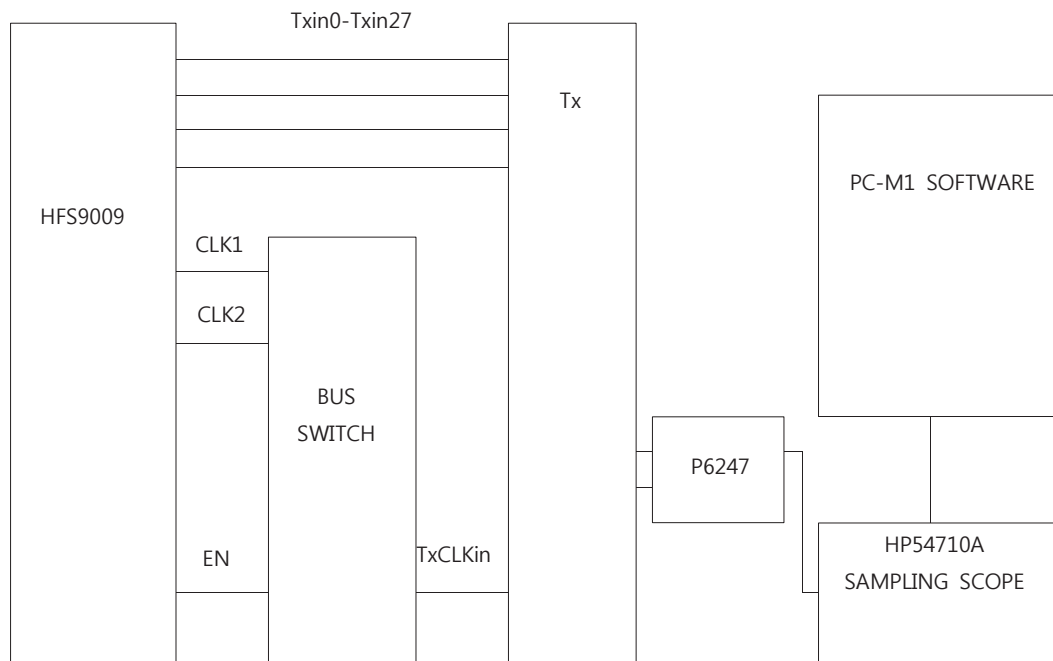

FIGURE 8.TJCC TEST SET-UP -DS90C385 SHOWN
- note 2** The limits are based on bench characterization of the device's jitter response over the power supply voltage range. output clock jitter is measured with a cycle to cycle jitter of $\pm 3\text{ns}$ applied to the input clock signal while data inputs are switching (fig8,9). A jitter event of 3 ns, represents worst case jump in the clock edge from most graphics controller VGA Chips currently available. this parameter is used when calculating system margin as described in AN-1059.